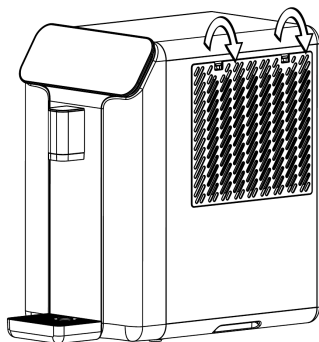

Figure 3 · Open the filter cover on the right-hand side
2. Press the buttons on both sides of the top of the filter cover on the right-hand side of the appliance and remove the cover (Figure 3).